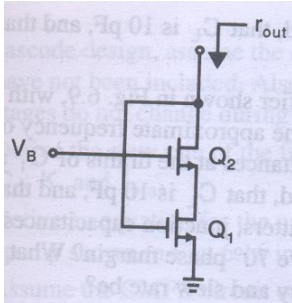

Fig.1
3. Calculate the output impedance of the two transistor diode connected circuit shown in Fig.1 using small signal analysis. Assume both transistors are in the active region, ignore the body effect and assume  $g_{m1} = g_{m2}$ ,  $r_{ds1} = r_{ds2}$ , and  $g_m r_{ds} \gg 1$ .